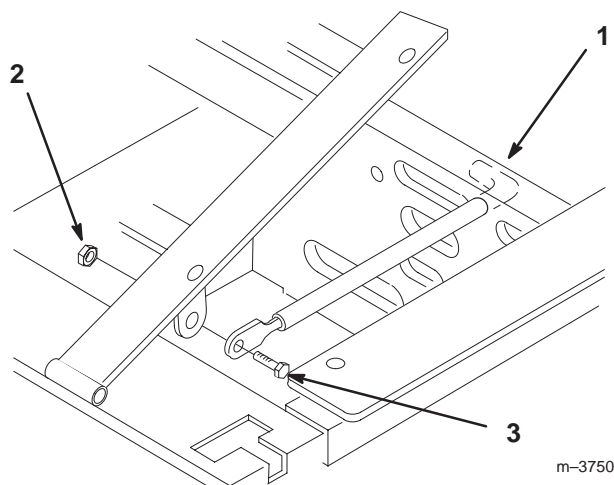

Figure 3
1. Tilt seat up. Remove locknut (5/16 in.) from bolt attaching seat retaining rod to seat frame (Fig. 3).
2. Remove retaining rod from seat and insert the **L** shaped end of the rod into the hole directly above the left-side hydraulic pump (Fig. 3).
3. Place the seat retaining rod to the outside of the mounting tab of the seat frame and secure with one bolt (5/16 x 1 in.) and locknut (5/16 in.) (Fig. 3).